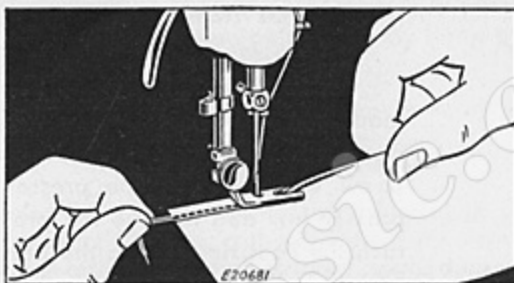

Fig. 63. Hemming Edge of Material and Pulling Back Threads While Sewing
- (4) Lower hemmer and start to sew, slightly pulling threads back while sewing. Keep scroll of hemmer full to produce a smooth, even hem, as shown in Fig. 63.